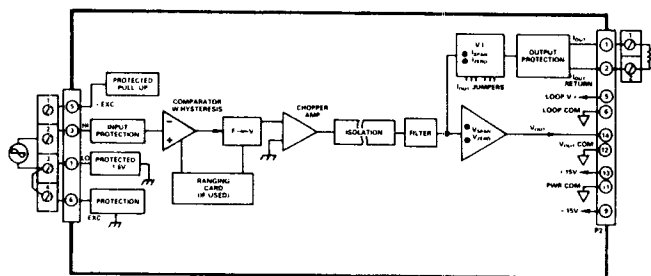

Figure 2.1.13.1 OM3-IFI and OM3-IFI-K Functional Block Diagram
Figure 2.1.13.1 shows a functional block diagram for models OM3-IFI and OM3-IFI-K. Input protection of up to 220V rms is provided on the four input screw terminals. The input signal is compared to the selected threshold and hysteresis and the comparator's output frequency is converted to a voltage. The signal is then amplified and filtered to give the high level voltage output. Chopper based amplification is used to assure low drift and excellent long term stability. Transformer coupling is used to achieve stable, galvanic isolation between input and output. Both the voltage and current outputs can be independently adjusted over a $\pm 5\%$ span range from zero and span with the front panel accessible potentiometers. The current output which has 130V output protection interfaces with user equipment through screw terminal connections.
1. Connect model OM3-IFI (OM3-IFI-K) as shown in Figure 2.1.13.1 with $R_L = 250\Omega$.